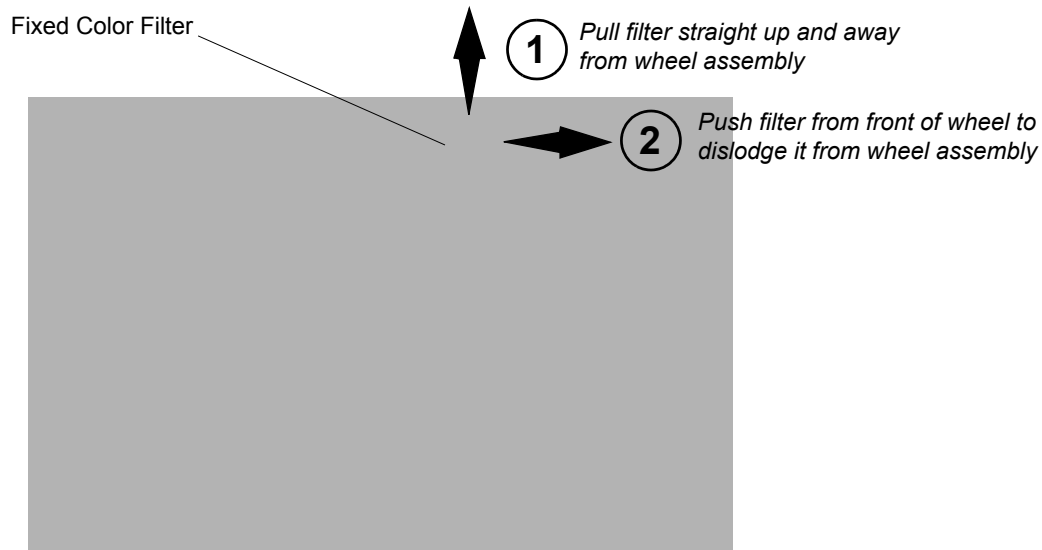

Figure A-5: Removing Fixed Color Filters
- Step 4. At fixed color wheel, slowly rotate wheel by hand until filter to be removed is visible on assembly as shown in Figure A-5.
- Step 5. At filter to be removed, (1) press filter out of fixed color wheel with fingers and (2) guide filter up and away from fixed color wheel.